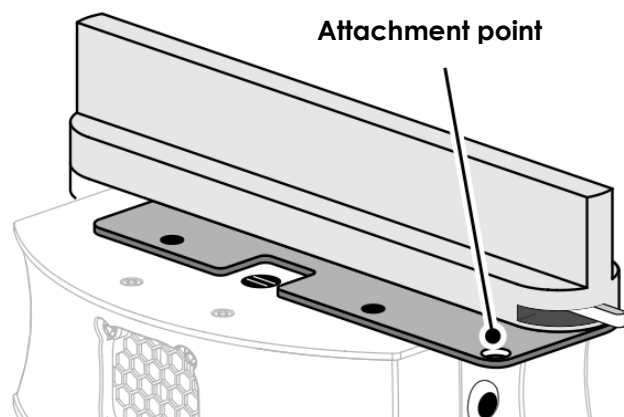

Figure 7. Safety cable attachment point
9. See Figure 7. Note the position of the safety cable attachment point (arrowed) in the luminaire's baseplate. Install a safety cable as directed on the following pages.